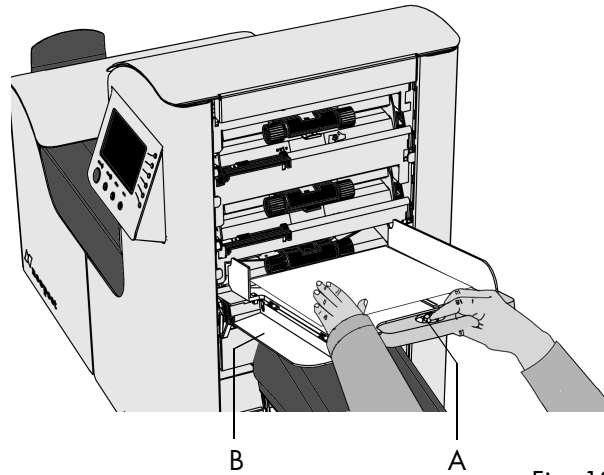

Fig. 12
- push the knob A (fig. 12) forward until it clicks.
- open the left side guide B (fig. 12) by turning it downwards.
Pull the knob A (fig. 12) back again when ready. Close the left side guide.